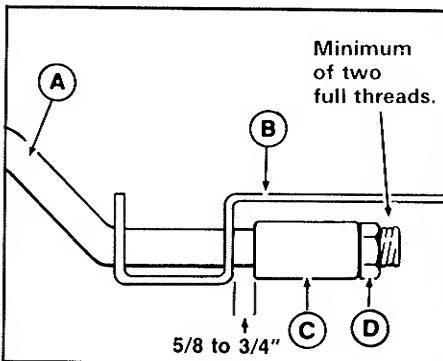

Figure 30. Brake Adjustment
4. Locate the brake band (figure 30) which is located to the inside of left-rear tire.